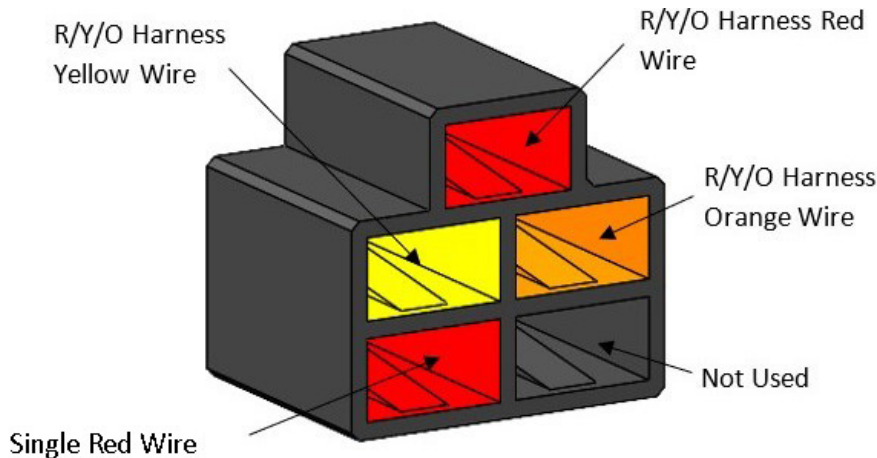

FIGURE 13
32. With the front dash free to move, route the Three Conductor Wiring Harness (Red, Orange, Yellow) to the switch and connect the terminals as shown in **FIGURE 13**. Connect the Single Conductor Red wire as shown in **FIGURE 13**.